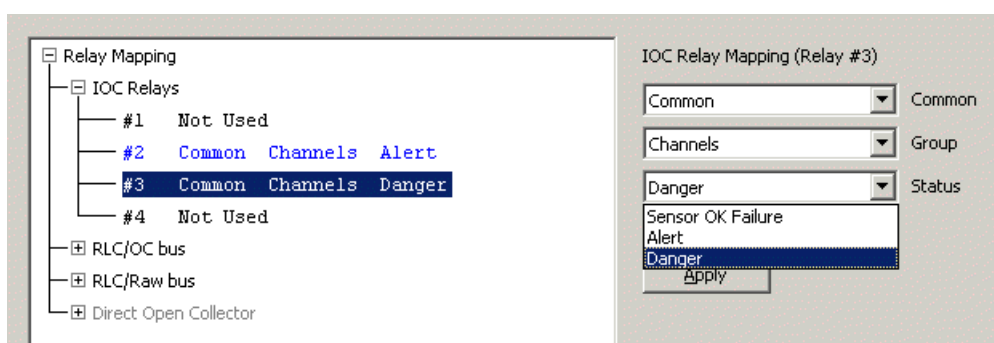

Figure 10-3: Example of attributing Relay 3 on the IOC4T card to the “Common Danger” alarm
- **Common, Group** and **Status** (Figure 10-3) and
- 1- Click a node (small box containing a “+” sign) in the tree structure to show more of the hierarchy (Figure 10-3 shows the IOC Relays branch opened up).
- 6- Click the **Apply** button to attribute the alarm signal to the relay. The line now shows the alarm designation (for example, in Figure 10-3, Relay 2 on the IOC4T is attributed to the Common Alert alarm).